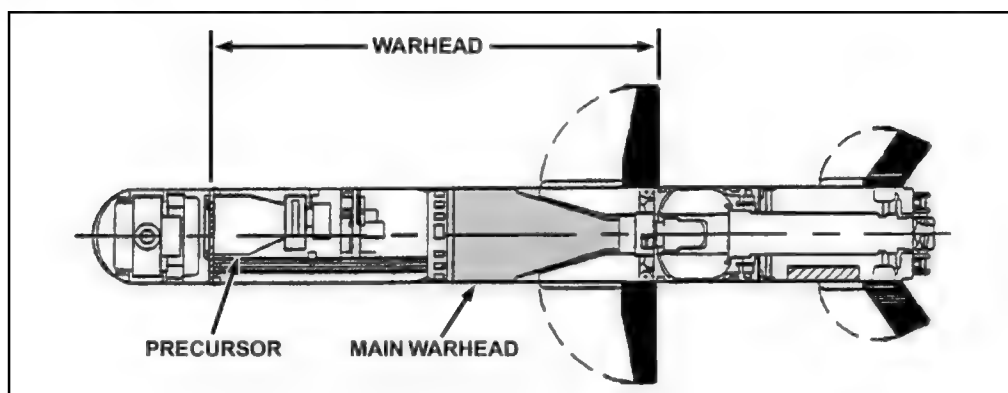

Figure 1-23. Missile warhead.
c. **Warhead Section.** The Javelin missile uses a dual charged warhead (Figure 1-23). The warhead has a precursor charge and main charge.
(1) The precursor charge is a HE antitank shaped charge. Its purpose is to cause reactive armor on the target to detonate before the main charge reaches the armor. Once the reactive armor is penetrated, the target's main hull is exposed to the warhead's main charge. If the target is not equipped with reactive armor, the precursor provides additional explosives to penetrate the main armor.
(2) The main charge is the second charge of a dual-charge warhead and is also an HE antitank shaped charge. The primary warhead charge is designed to penetrate the target's main armor to achieve a target kill.